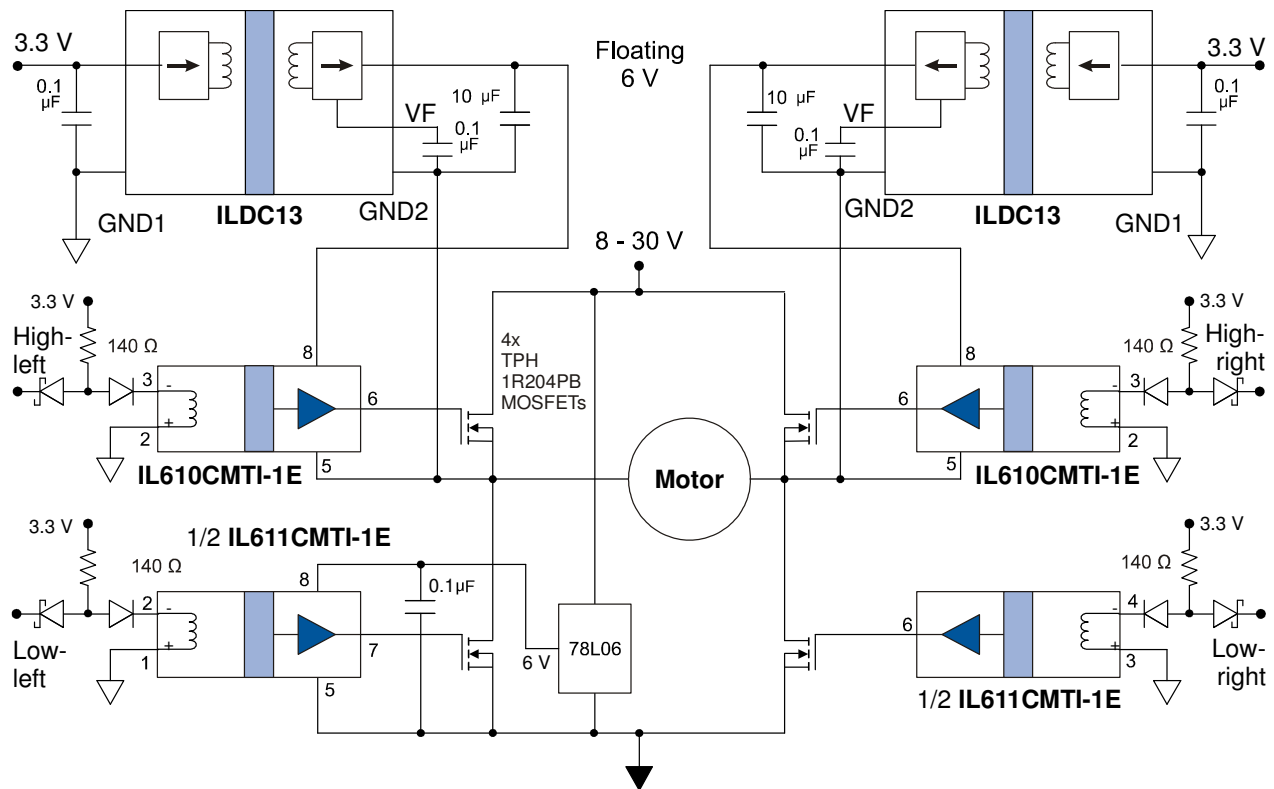

Figure 18. Isolated H-bridge with separate MOSFET control inputs.
- Added more sophisticated H-bridge application circuits (Figs. 18 – 20).